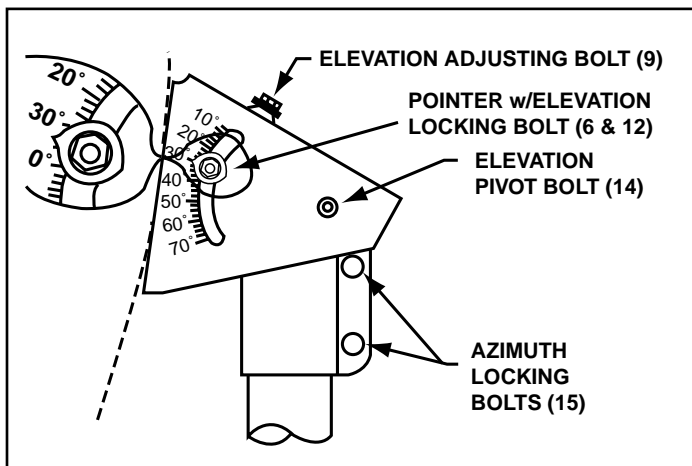

FIG. 2.0 - SETTING ANTENNA ELEVATION
- 1- Elevation, refer to Figure 2.0.
IMPORTANT: The following bolts should have been loosened during the “Installing Antenna and AZ/EL Cap” procedure, if not loose, loosen now: Bolts in curved slots (both sides of AZ/EL housing), and elevation pivot bolts (14) on both sides of AZ/EL housing 1/4 turn (refer to Figure 2.0). Turn elevation adjustment bolt (9) clockwise to decrease elevation or counterclockwise to increase elevation. Align the pointer (6) with appropriate mark at the desired elevation reading. Refer to Figure 2.0. This will be an approximate setting. Optimum setting achieved when fine tuning.
Snug tighten hex nuts in curved slots and pivot bolts (refer to Figure 2.0). Use a signal strength measuring device for final adjustments to obtain maximum antenna performance. Alternate between elevation and azimuth fine tuning to reach maximum signal strength, until no improvement can be detected. Tighten and torque all hardware (refer to Torque Chart on page 2).